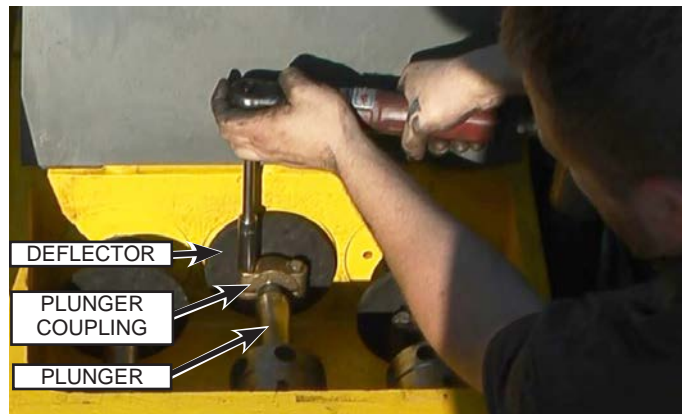

Fig. 124: Plunger Coupling Removal
7. Remove the two capscrews that secure the plunger coupling (Fig. 124) to the plunger and remove the coupling. Rotate the pump until the pony rod is fully retracted.
8. Slide the rubber deflector (Fig. 124) off of the pony rod.